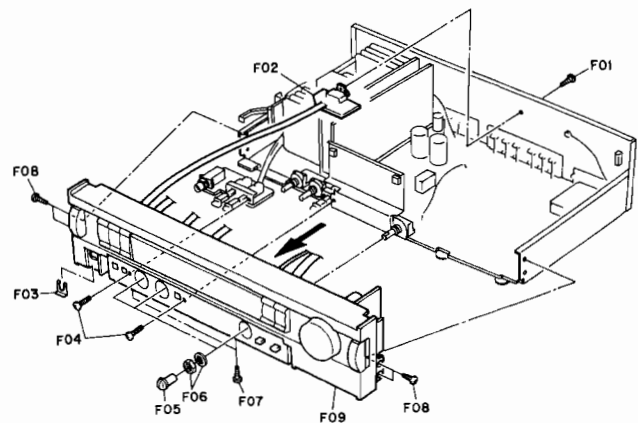
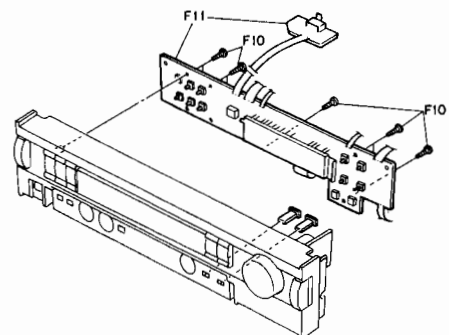

Fig. 2.4.1
Fig. 2.4.2
Refer to Figs. 2.4.1 and 2.4.2.
- (1) Remove the Front Panel Ass'y referring to item 2.3.
- (2) Disconnect all connectors, loosen a screw (F01), and remove F02 (System Remote P.C.B. Ass'y). See Fig. 2.4.1.
- (3) Remove F03 and loosen screws F04 (2 pcs.).
- (4) Remove F05 (Tone knob, 3 pcs.) and F06 (Nut & Washer, 3 sets), loosen screws F07 (2 pcs.) and F08 (4 pcs.), and disassemble F09 (Front Chassis Ass'y).
- (5) Loosen screws F10 (8 pcs.) and remove F11 (Display & Control P.C.B. Ass'y & System Remote P.C.B. Ass'y). See Fig. 2.4.2.